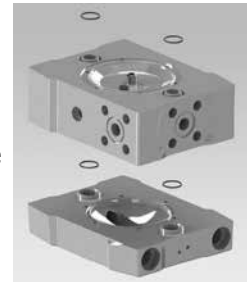

Figure 16
Push the housing o-rings (22) into the center housing (01), applies to the pump range VA-P08 to VA-P25 (see Figure 16).
For VA-P40 and VA-P50 pumps, push the housing o-rings into the side housings (02-03). (see Figure 16).